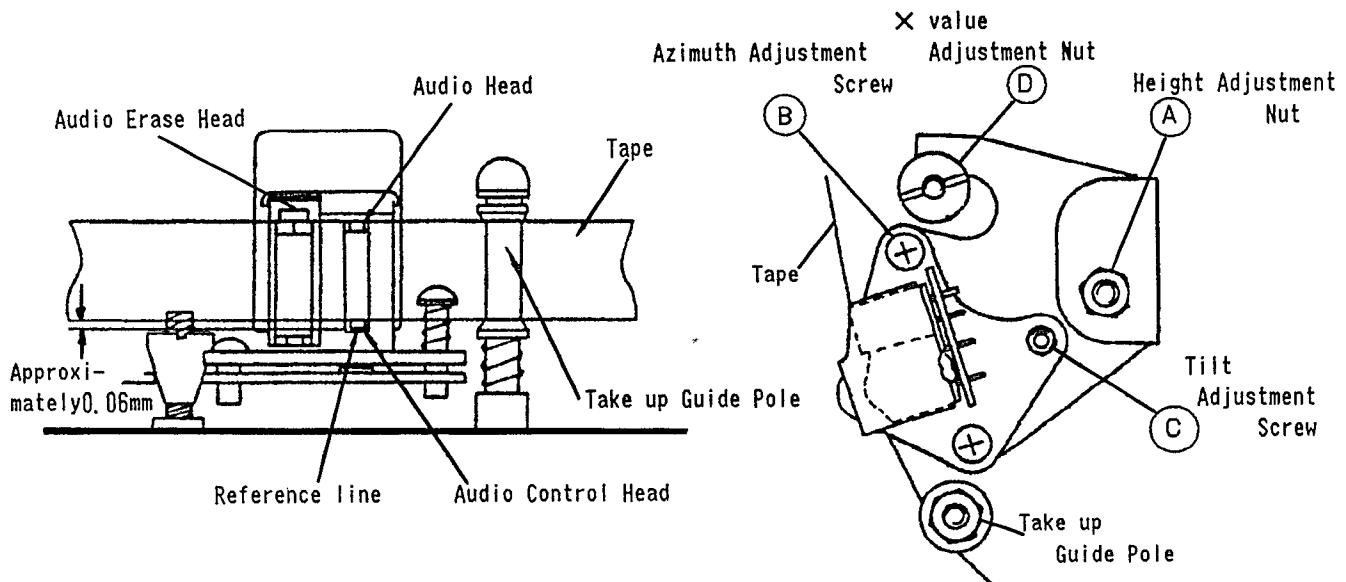

Fig. 5-7
2. Adjust the height of the edge of the audio track on the audio control Head by using the height adjustment nut **A** and the tilt adjustment screw **C** so that the tape transport is smooth at the take-up guide pole. Align the audio control head height (Refer to Fig.5-7).